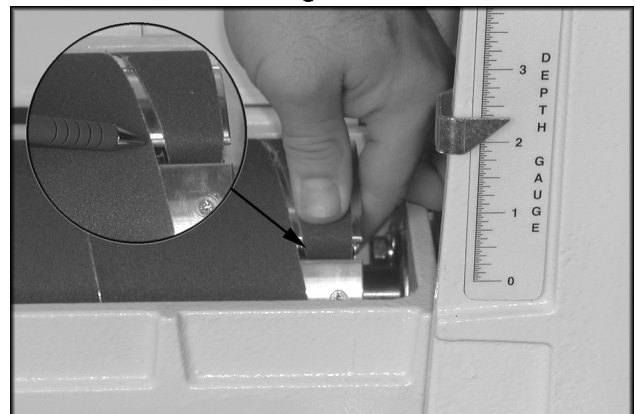

Fig. 11
**IMPORTANT** Position the abrasive strip with sufficient room between the inside of the slot and the tapered end of the strip to allow it to be pulled into the drum as needed, (See Figure 11).